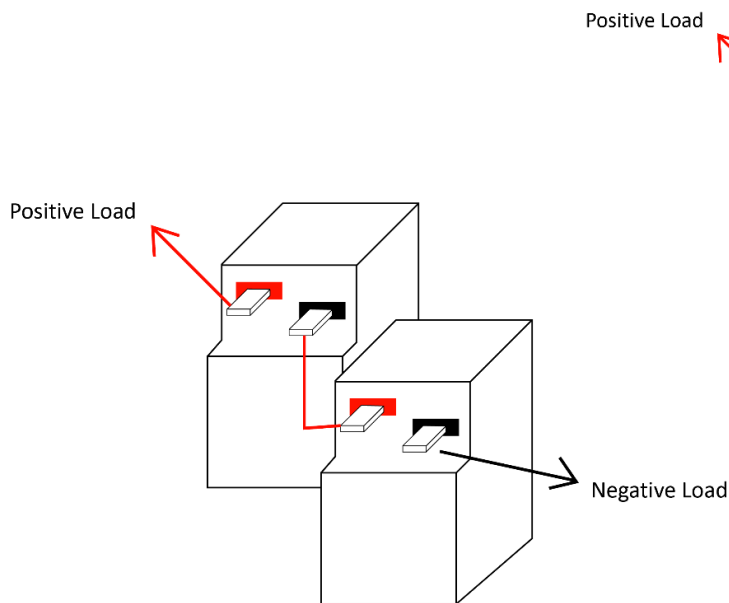
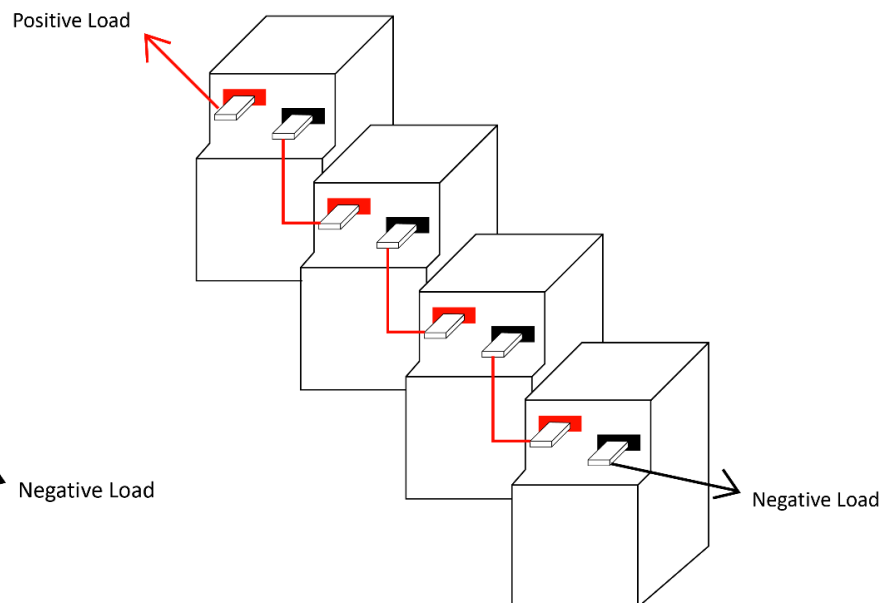

Figure 4.1: Two GC2|GC2H Batteries connected in Series to create a 24V 100Ah Batter Bank
Figure 4.2: Four GC2|GC2H Batteries connected in Series to create a 48V 100Ah Batter Bank
7. Repeat steps 3-6 for additional batteries, but **DO NOT** exceed 48V. An example of a correct series connection can be found below in Fig. 4.1 and Fig. 4.2.